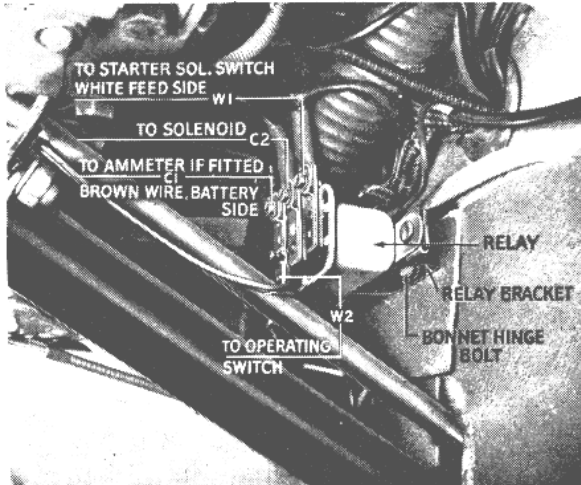

Fig. 30 Showing the positioning and wiring for the Relay.
1. Fit the relay to the relay bracket using two self-tapping screws. The bonnet hinges are secured to the body by three bolts to each hinge. The bottom bolt of the hinge nearest to the steering column is used to hold the relay and bracket inside the car (Fig. 30).